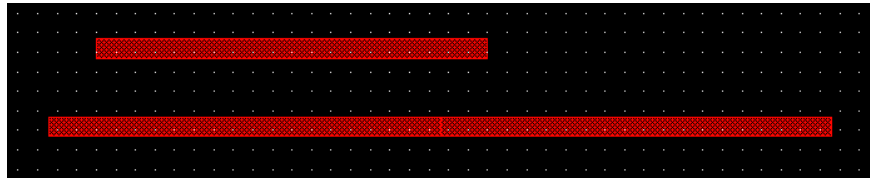

Figure 36: Bottom Instance Aligned with the Middle Instance
6. With the mouse, move the instance to align with the middle **MyCell** instance (see Figure 36).